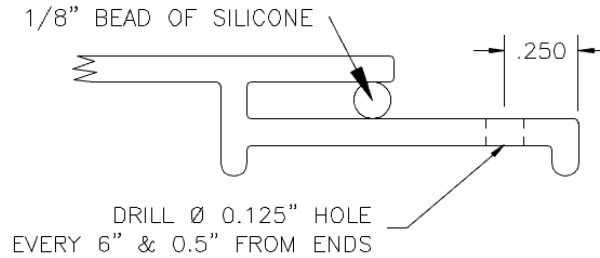

Figure 2: Nail hole location on mull cover (x2).
- 4) Drill Ø1/8" holes into 90° corner mull (part #: 584023) as directed below in Figure 2.
- b. Apply a 1/8" bead of silicone onto mull cover as directed above in Figure 2.